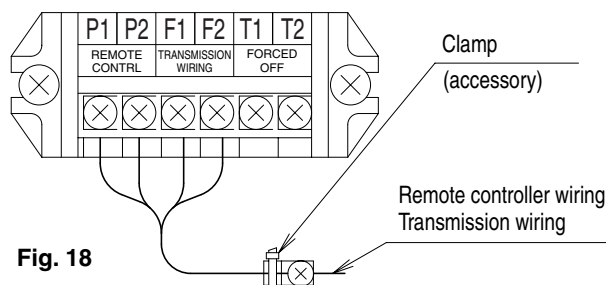

Fig. 18
- (1) Pass the remote control wiring, the transmission wiring, and the computerised control wire into the electric parts box through the through-hole and connect to the terminals on the X3M terminal block. After connection, secure with the included cramping material. (Refer to Fig. 18)